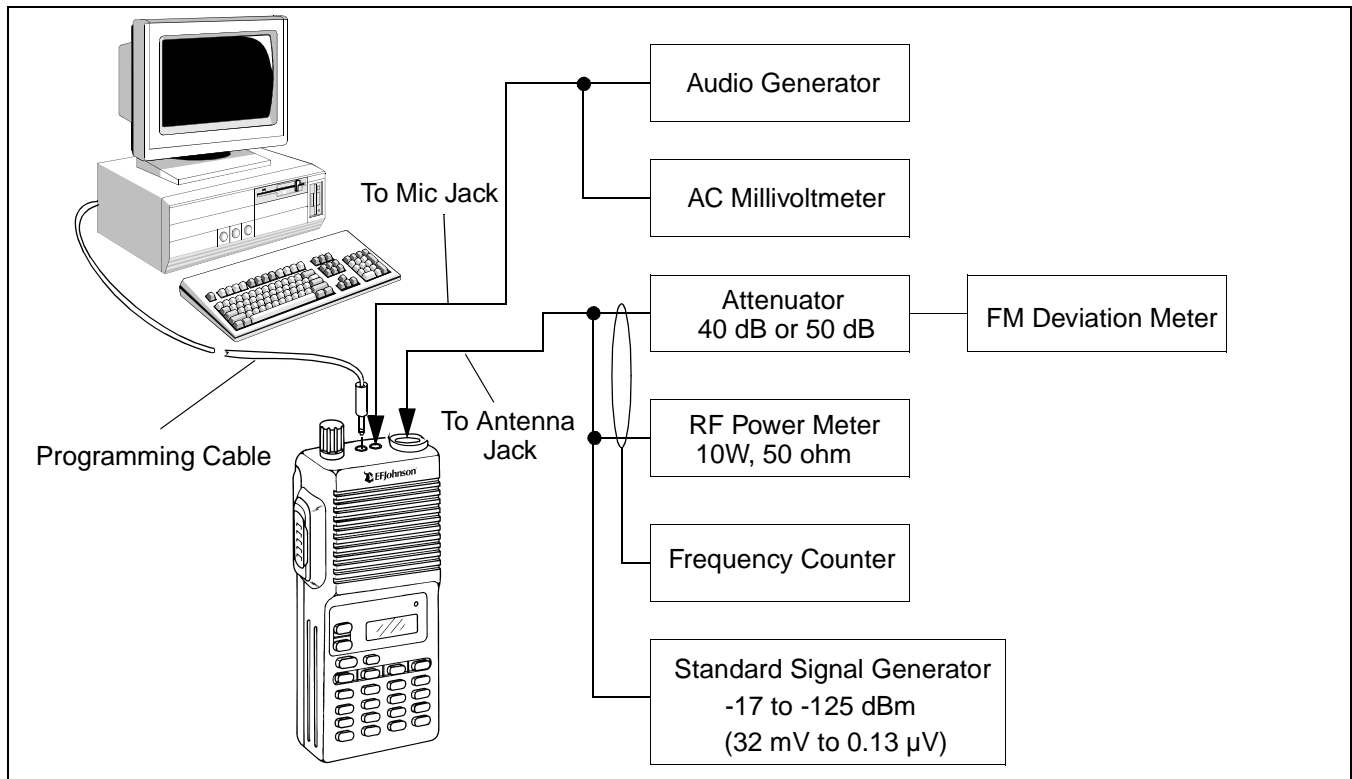

Figure 5-1 Test Setup
2. Turn transceiver power on and connect the computer to the transceiver speaker (SP) jack using the optional programming cable (see Figure 5-1).
3. Connect the computer to the transceiver that had the EEPROM replaced or is displaying the error (see Figure 5-1).